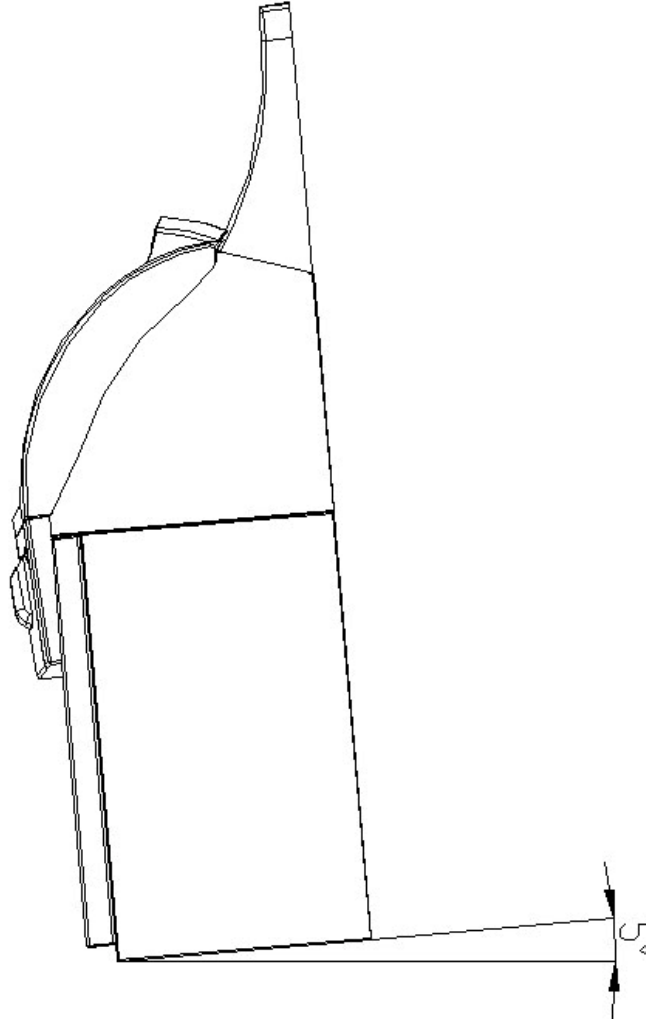

Fig. 4.6 Making a surface level of ATM
- 2) Place the system on a flat surface, the system has a tendency to tip over if the surface is over 10 degrees. (refer to Fig 4.6) Be careful when opening the top or bottom of the machine s it will be off balance